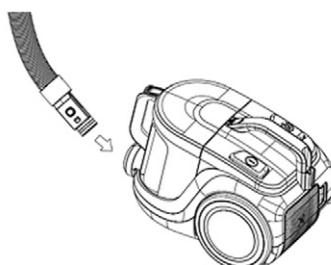

Fig. 1
1. **Fig.1:** The connection of the hose and the vacuum cleaner: